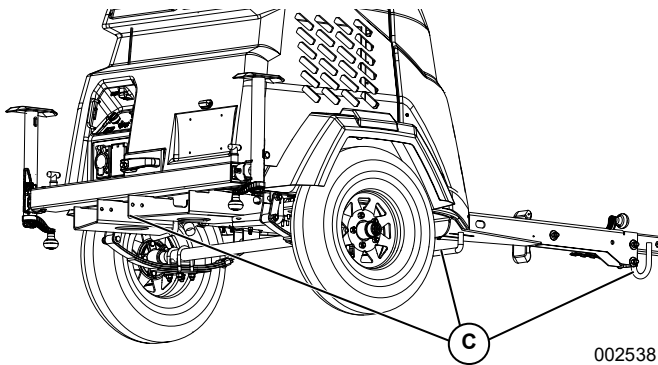

Figure 3-24. Tie-Down Points
See Figure 3-24. Use the tie-down points (C) as shown.